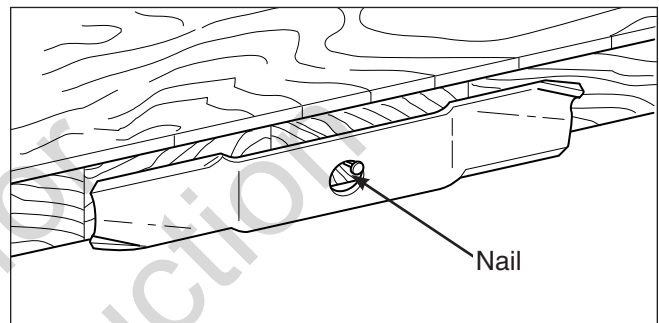

Figure 18. Balancing the Blade
6. Balance the blade as shown in Figure 18. Center the blade's hole on a nail lubricated with a drop of oil. A balanced blade will remain level.